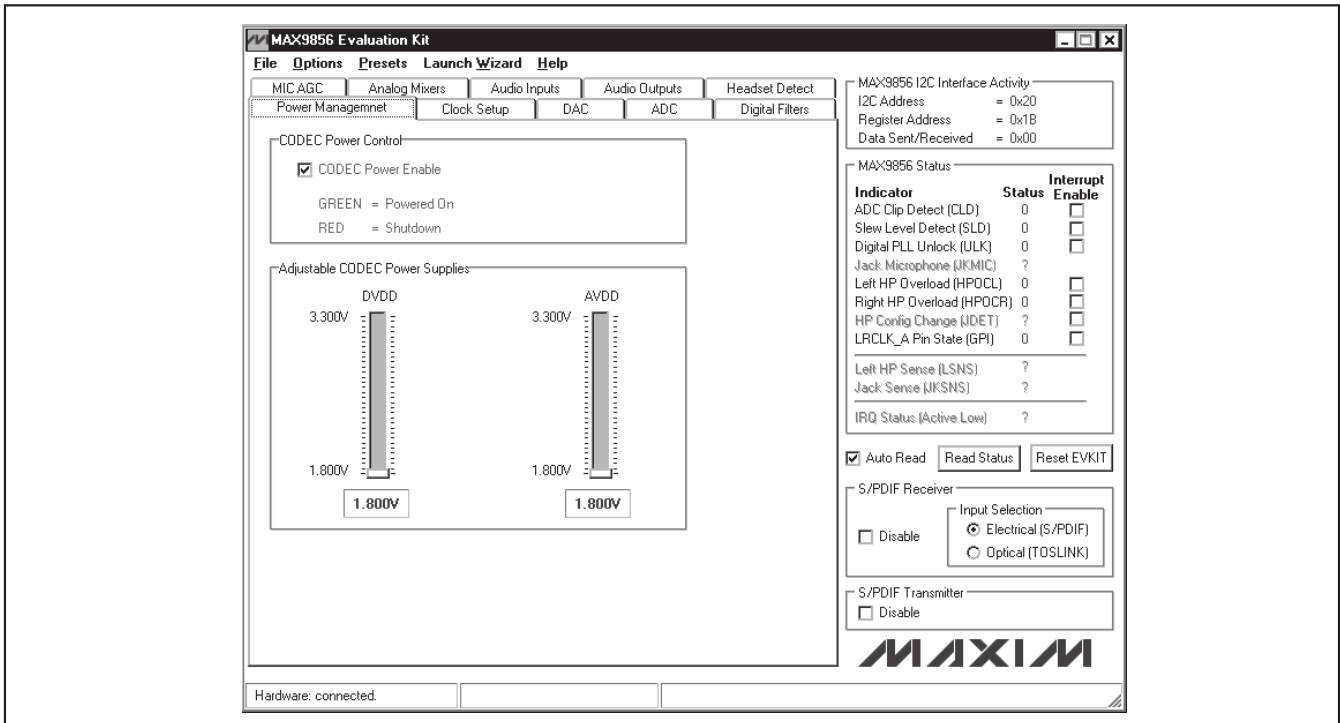

Figure 3. MAX9856 Evaluation Software (Main Window)
- 15) Click the **Finish** button. The software main window appears (Figure 3).
The left-hand side of the main window (Figure 3) includes 10 tabs. On each tab, the user can exercise a group of related configurations. Each control on the GUI generates the expected I²C write operation to update the internal registers of the MAX9856 and other I²C devices on the EV kit.
The **MAX9856 I²C Interface Activity** group box (Figures 3 and 4) indicates the **Register Address** and **Data Sent/Received** to or from the register. Use this data to verify that a proper value is written to or read from the MAX9856. Some operations may include several continuous register read or write, but only the last register read or write operation is displayed.
The current status is reported in the **MAX9856 Status** group box (Figures 3 and 5). Click the **Read Status** button to poll the status of the MAX9856. Check the **Interrupt Enable** checkbox next to the desired indicator to trigger hardware interrupts when the alert condition occurs. If an interrupt is generated, the **IRQ Status (Active Low)** indicator label displays a status "0" in red color.
The **S/PDIF Receiver** group box (Figures 3 and 6) controls the action of the on-board S/PDIF receiver. Check **Disable** to disable the receiver. Select the electrical or optical input by clicking the appropriate radio button.
The **S/PDIF Transmitter** group box (Figure 3) controls the action of the on-board S/PDIF transmitter. Check **Disable** to disable the transmitter. Both electrical and optical outputs are simultaneously available.
Click on the **Presets** menu item shown in Figure 3 to access seven preconfigured operating modes for the EV kit. These presets quickly configure the MAX9856 in the operating mode listed in Table 1. Once a preset has been selected, use the main interface to optimize the settings as desired.
Click on the **Launch Wizard** menu item shown in Figure 3 to launch the setup wizard and let the software configure the EV kit automatically.